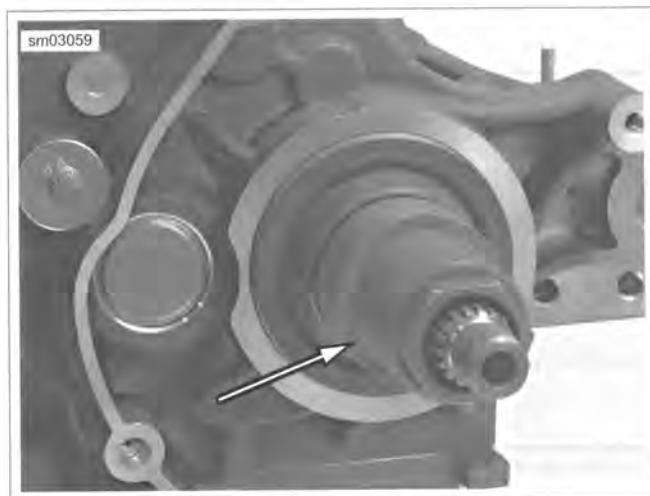

Figure 6-53. Install Adapter
4. See Figure 6-53. Install ADAPTER (Part No. HD-47856-3) onto end of main drive gear until it contacts main drive gear.